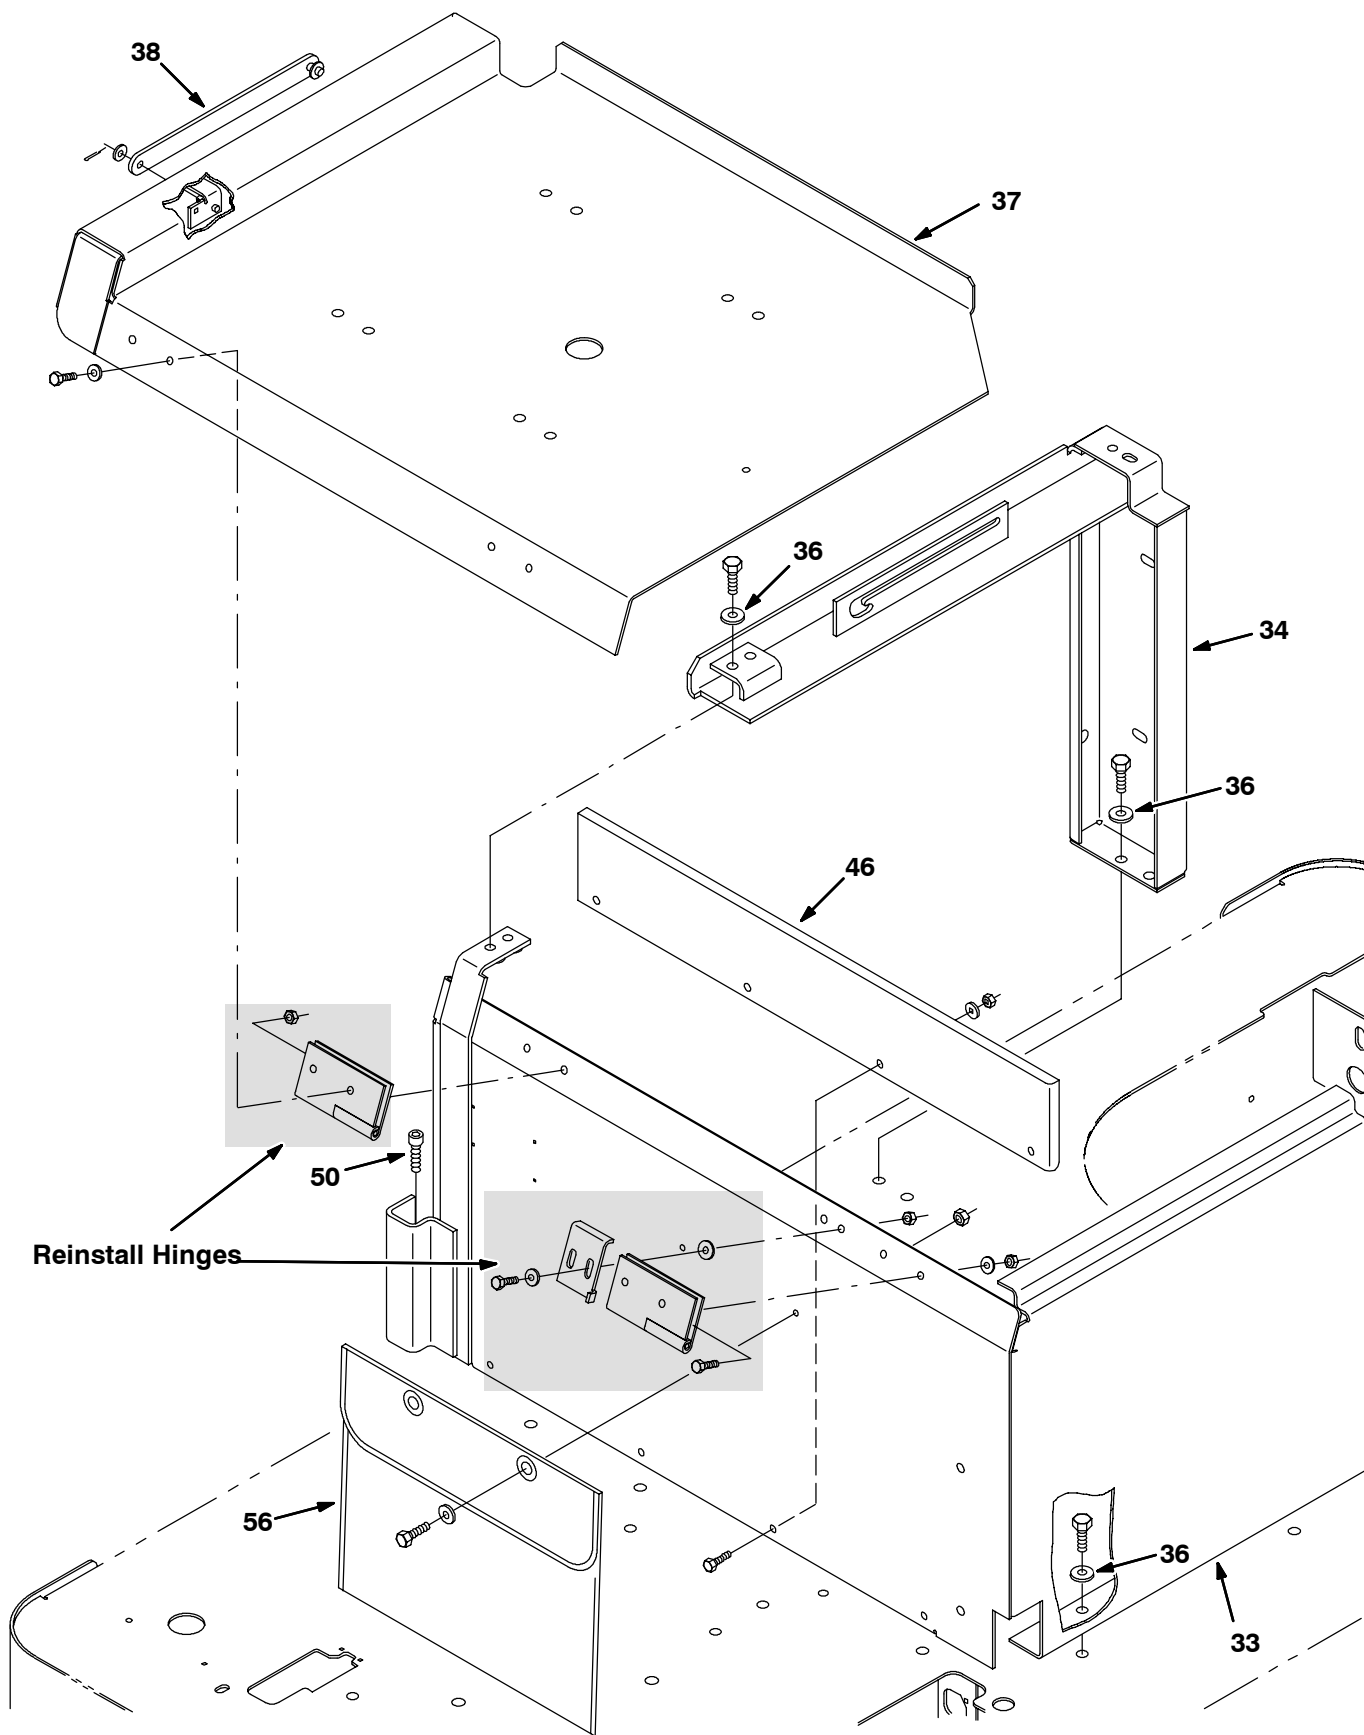

FIG. 6-Rollout Battery Seat Support Group
13. Break out the marked opening in the frame for the new lift arm position. Refer to Fig. 6.
1. Install the rollout battery seat support (33) with hardware from original seat support, washers and socket screw (50). Refer to Fig. 6.
2. Mount the high density polyethylene plate (46) to the front interior of the seat support (33) with mounting hardware. Refer to Fig. 6.
3. Mount the seat brace weldment (34) to the machine and seat support (33) with mounting hardware and washers (36). Refer to Fig. 6.
4. Mount the seat lock bracket to the seat support (33) with set aside hardware. Refer to Fig. 6.
5. Loosely mount the seat hinges to the new seat plate weldment (37). Refer to Fig. 6.
6. Connect the new seat plate weldment hinges to the seat support weldment (33) with the set aside hardware. When hinges are connected to both weldments, tighten the hinges. Refer to Fig. 6.
7. Mount the seat prop arm weldment (38) to the seat plate weldment (37). Insert the opposite end of the seat prop into the seat brace weldment (34). Refer to Fig. 6.